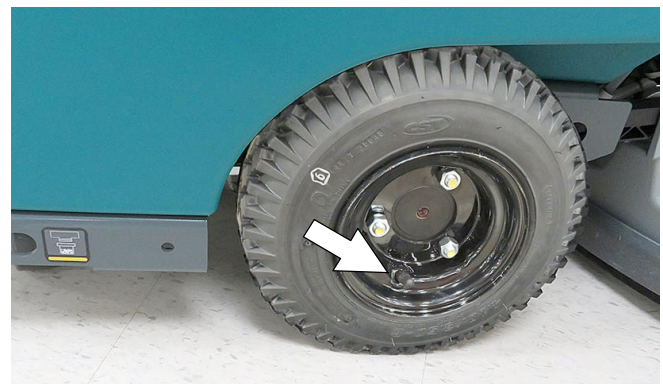

FIG. 122
4. Check tire pressure if equipped with the pneumatic (air-filled) tires (Figure 122). The proper tire pressure is 60 to 65 psi (415 to 450 kPa).